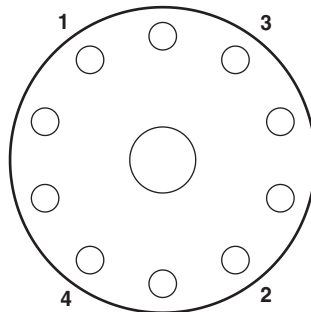
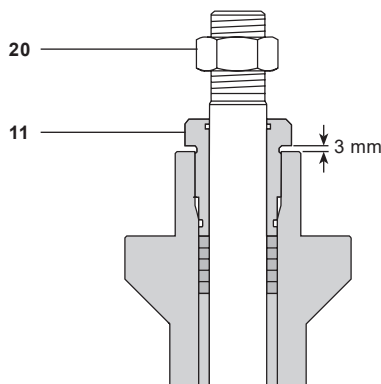

Fig. 15 DN125 to DN300
Fig. 23
- Fit a new bonnet gasket (15).
- By hand tightening only, refit the bonnet nuts (21) to secure the bonnet in place.
- Apply a load to the stem (preferably replace the actuator), then re-tighten the bonnet nuts in sequence (see Figure 15 and Table 2).
- Tighten the bonnet nuts to 30% of required torque setting following a diametrically opposed sequence (see Figure 15 and Table 2).
- Tighten the gland nut (11) until:
- ii) Graphite gland assembly: a gap of 3 mm between the underside of the gland nut and the bonnet is achieved. See Figure 23.
- Refit the lock-nut (20).